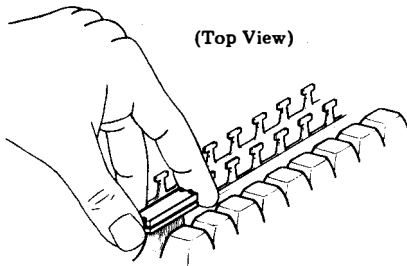

Fig. 21--Cable Connector Removal
(f) Exert upward force until cable connector releases (Fig. 21).
- (e) Grasp the cable connector using thumb and index finger (Fig. 21).